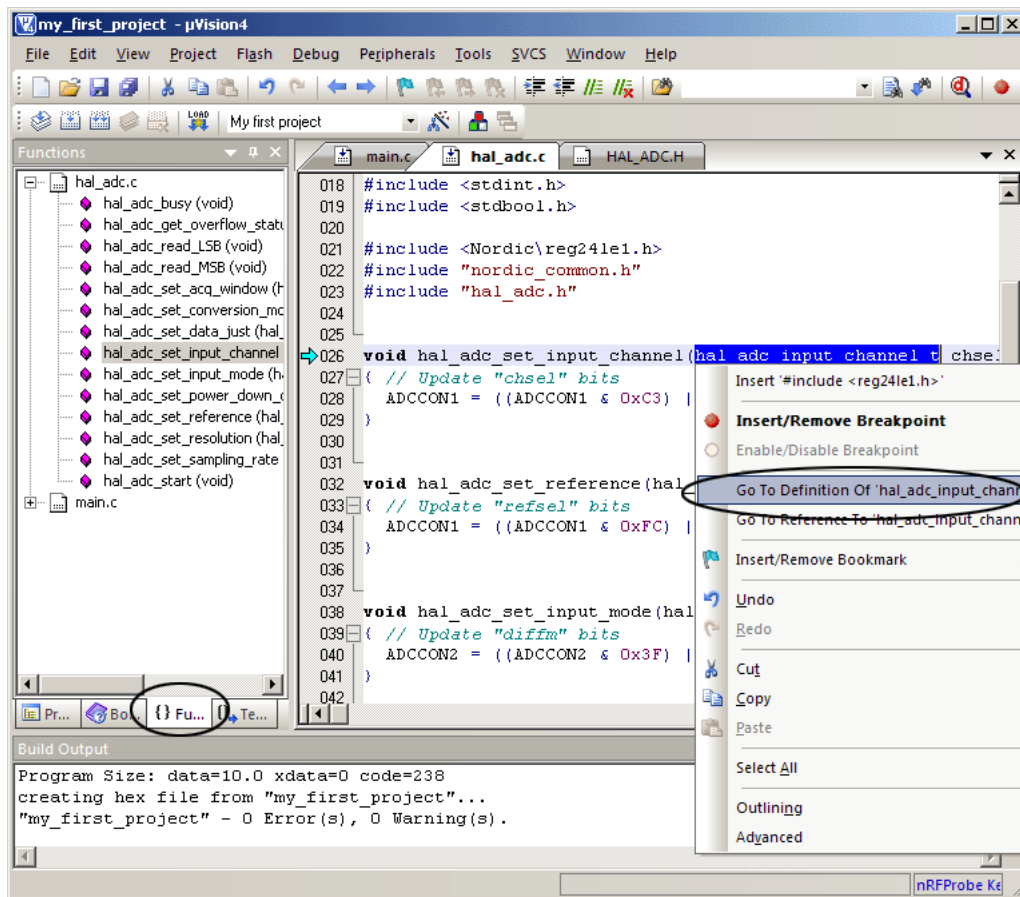
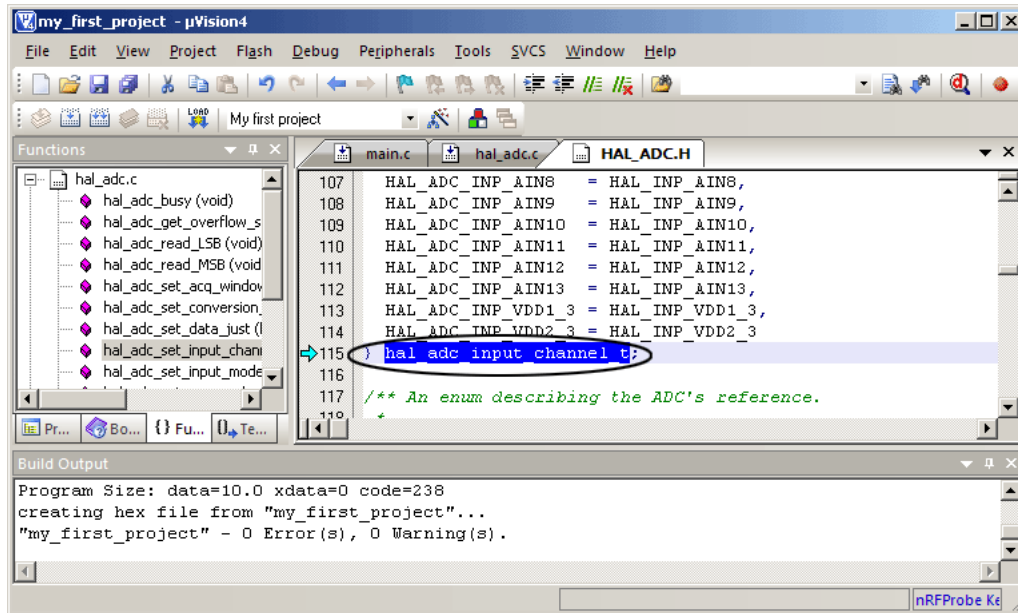

Figure 28. Available functionality of the HAL ADC with source code
Figure 29. Available parameters used as input for specific function
5. Optionally you can browse the functions in the hal_adc.c by selecting the “Function tab”. See the encircled area to the left in Figure 28. Click on one of the functions to see the argument for the functions and the source code for it. All parameters for the functions are enumerators that can be used in the function call.
6. You can also list up all available enumerators by using the **Go To Definition of** menu option (see Figure 28.) for each function call (see Figure 29. on page 25).